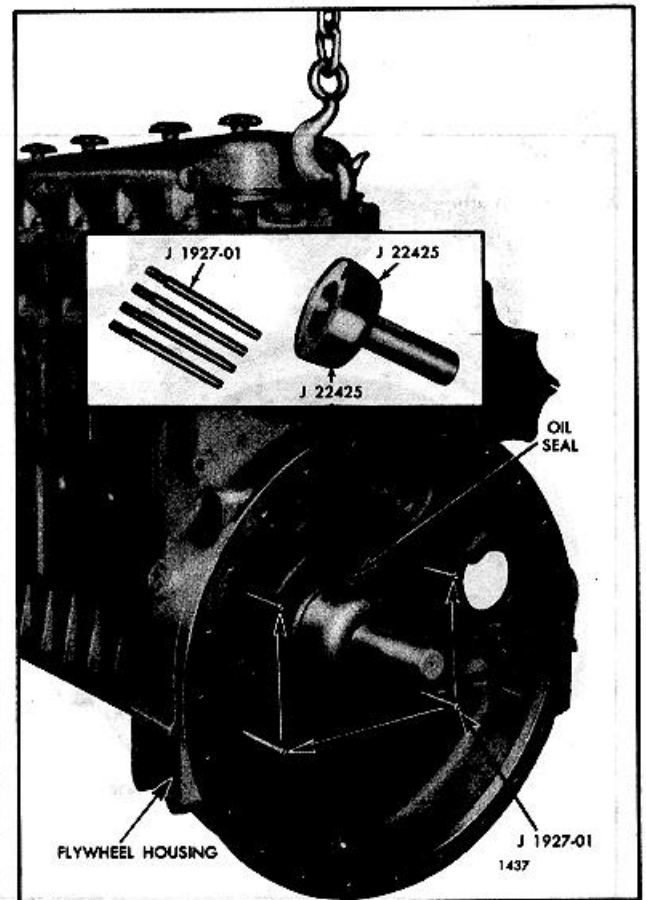

Fig. 2. Removing or Installing Flywheel Housing
5. To guide the flywheel housing until it clears the end of the crankshaft, thread four pilot studs J 1927-01 into the cylinder block (Fig. 2).
4. Thread four pilot studs J 1927-01 into the cylinder block to guide the housing in place (Fig. 2). Use oil seal expander J 22425 (standard size seal) or expander J 4195-01 and handle J 8092 (oversize seal) on the end of the crankshaft to pilot the oil seal on the crankshaft.